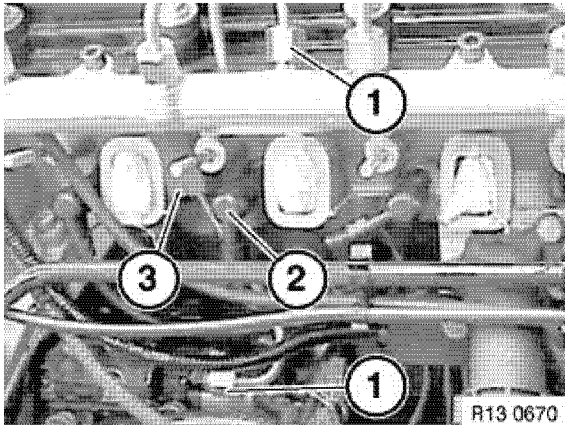

Figure 5-14
18. Remove pump-to-fuel rail high-pressure line (1, Figure 5-14).
Note: **4BY3 Engines:** Note the position of the rubber mount (3, Figure 5-14) for reassembly.
19. Remove glow plugs (2, Figure 5-14). See *Remove and Install Glow Plugs* on page 5-18.